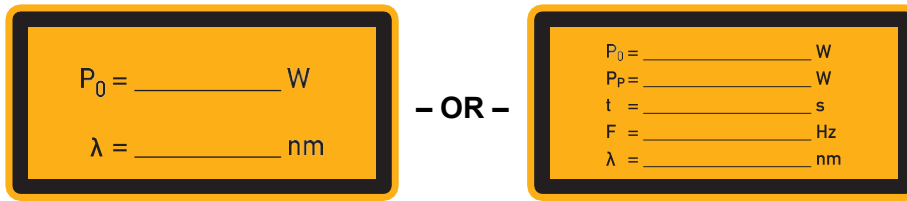

Figure 4.4.: Laser parameter label; left for continuous wave lasers or right for pulsed lasers
2. Inscribe the laser parameters into one of the labels in figure 4.4 on page 19.
3. Affix the labels from figures 4.4 on page 19 and 4.5 on page 19 clearly visible to the laser device.